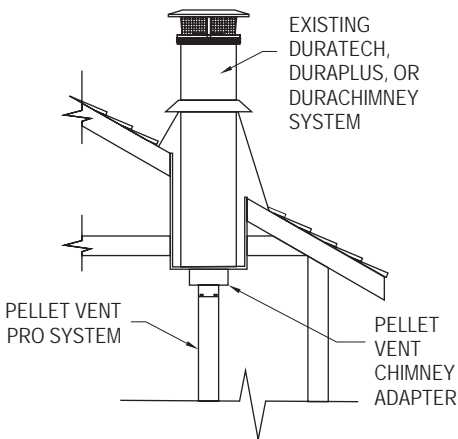

Figure 7
6. If it is desired to attach to an existing 6", 7" or 8" DuraTech, DuraPlus or DuraPlus HTC chimney, either roof supported, or ceiling supported: (*Figure 7*).
C. Install a DVL/DuraBlack Chimney Adapter - product stock numbers (6") 8674, (7") 8774, or (8") 8874 - in the existing ceiling support box, as shown in *Figure 7*. Note that the DVL/DuraBlack Chimney Adapter only connects to Simpson Dura-Vent chimney systems.
E. Connect the appliance to the Chimney Adapter using an Appliance Adapter, lengths of pipe as required, and an Adjustable Length pipe. Slide the Adjustable Length down over the top pipe section, position the installation vertically plumb, then slip the Adjustable Length up and twist lock it to the Chimney Adapter. Once all the components are firmly seated and properly aligned, carefully drill three 1/8" diameter holes through the outer sleeve only in the center of the slots located at the bottom of the Adjustable Length pipe. Do not penetrate the inner liner. Use (3) 1/4" length sheet metal screws to secure the Adjustable Length pipe. The completed installation will look like *Figure 7*.